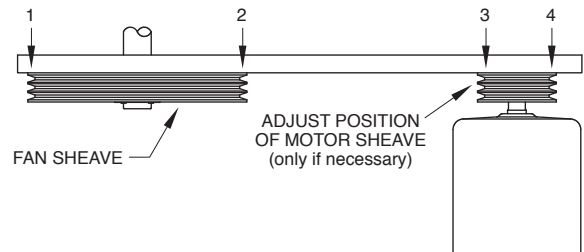

Figure 17 – Sheave Alignment Check
9. As a final check, lay a straight edge from sheave to sheave. There should be four point contact (See Figure 17). Adjust the position of the motor sheave as necessary.